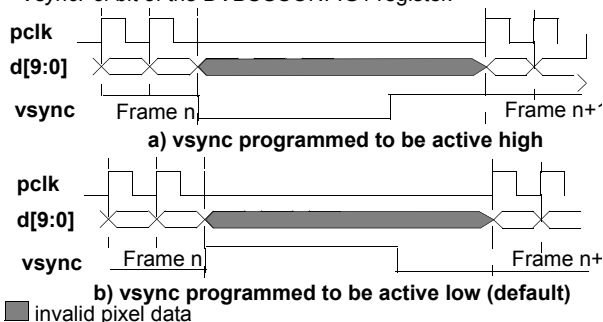

Figure 47. *vsync* in Pulse Mode
- **Pulse mode** should be used when the pixel clock, *pclk*, is programmed to operate in *data ready mode*. In pulse mode the *vsync* output pin will produce a pulse at the end of each frame. The width of the pulse will be a minimum of four *hclk* cycles and its polarity can be programmed as shown in Figure 47. The *vsync* level is always synchronized to the active edge of *pclk*. The *vsync* pin is put into pulse mode by setting the *VsyncMode* bit of the *DVBUSCONFIG1* register to a logic 1. The active level of the *vsync* pulse is programmed using the *VsyncPol* bit of the *DVBUSCONFIG1* register.